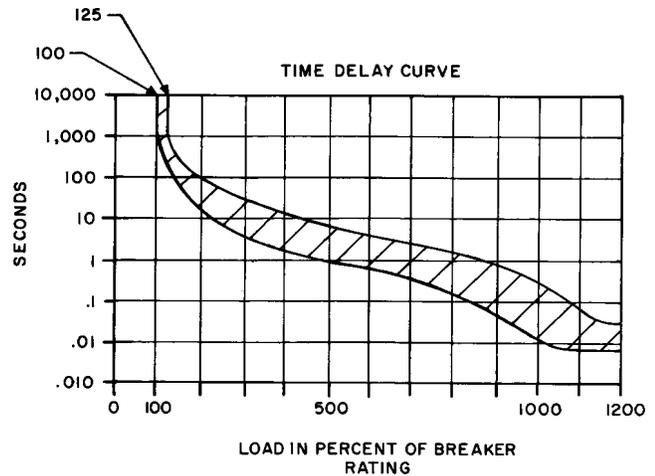

Fig. 2—Time Delay Curve Table A
3.01 Electrical: The breakers are inverse time—delay type designed to carry the rated current continuously and will trip on overcurrents in accordance with the performance curve shown in Figure 2.